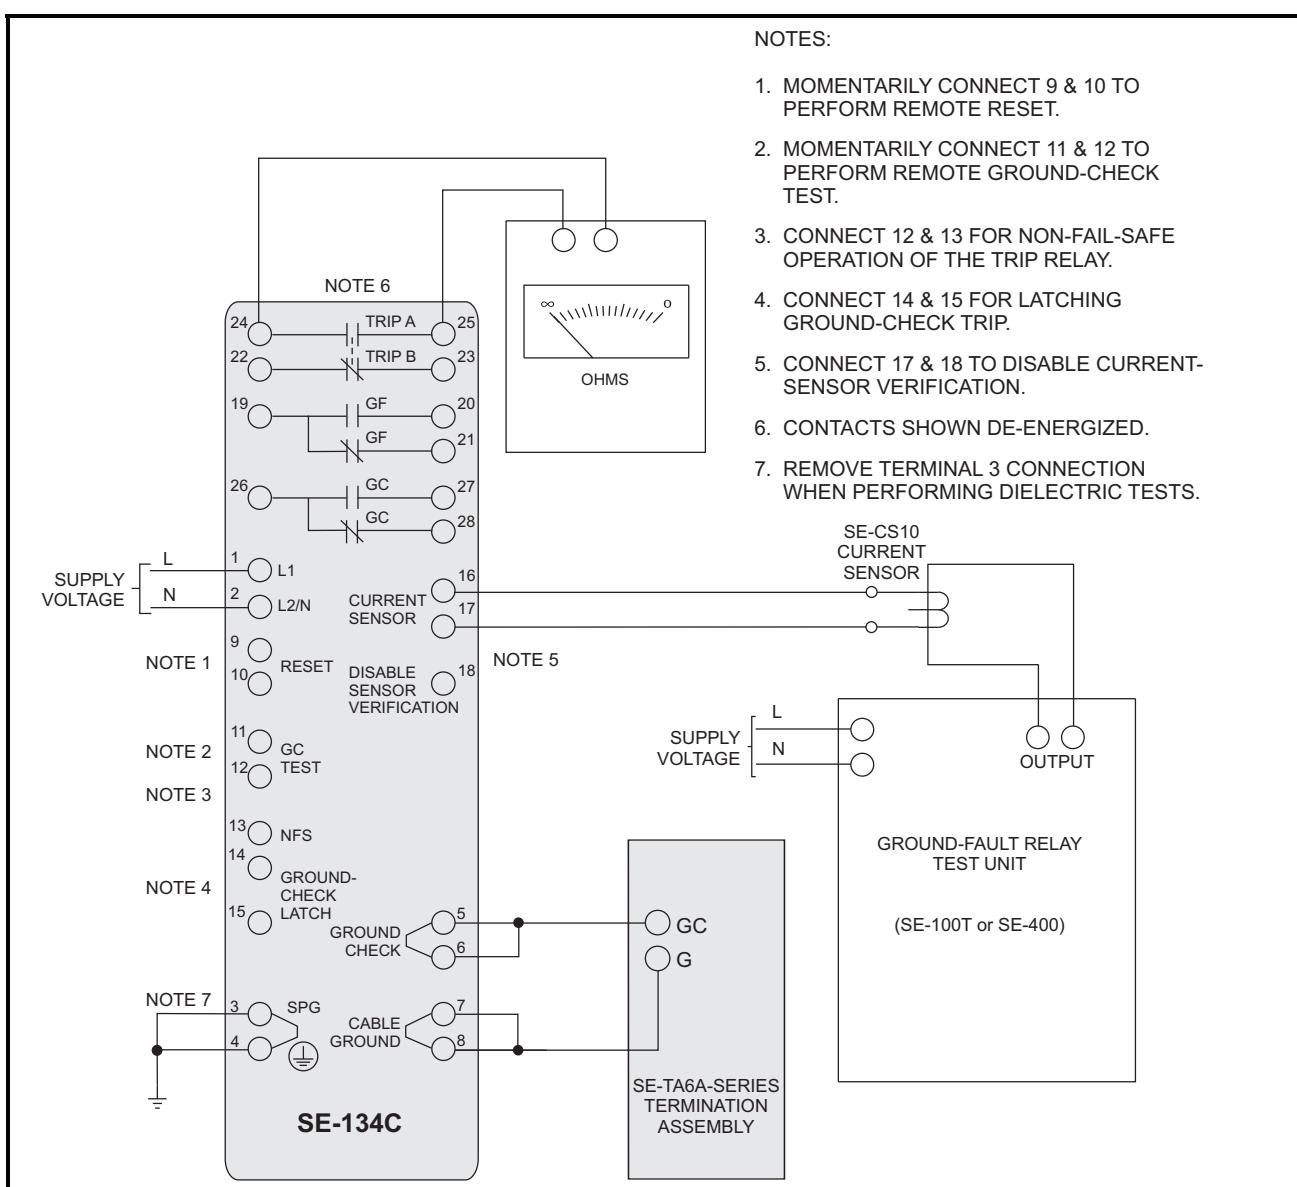

FIGURE 10. Ground-Fault-Test Circuit.
- Connect the monitor, current sensor and termination assembly as shown in Fig 10. Connect terminals 14 and 15 for latching operation. With supply voltage applied, the POWER, SENSOR, and VALID LED's will be on.
- Connect the monitor, current sensor and termination device as shown in Fig. 10. With supply voltage applied, the POWER, SENSOR, and VALID LED's will be on.
- Connect the monitor, current sensor and termination device as shown in Fig. 10. With supply voltage applied, the POWER, SENSOR, and VALID LED's will be on. The output contacts between terminals 22 and 23 will be open and between 24 and 25 will be closed.
- d) Verify proper reaction of the circuit-interrupting device in response to a simulated or controlled ground-fault current. To simulate ground-fault current, use CT-primary current injection. Fig. 10 shows a test circuit using Littelfuse Startco Ground-Fault-Relay Test Units. The SE-400 has a programmable output of 0.5 to 9.9 A for a duration of 0.1 to 9.9 seconds. Set the test current to 120% of GF TRIP LEVEL. The SE-100T provides a test current of 0.65 or 2.75 A for testing 0.5- and 2.0-A trip levels. Inject the test current through the current-transformer window for at least 2.5 seconds. Verify that the circuit under test has reacted properly. Correct any problems and re-test until the proper reaction is verified.